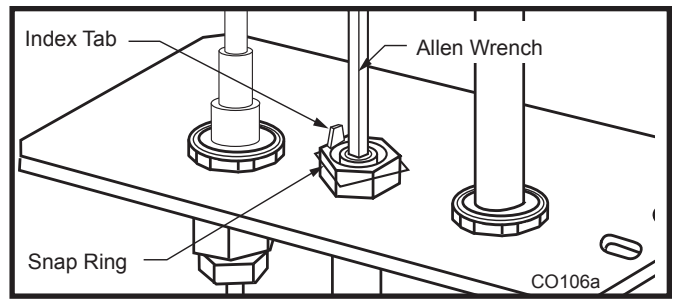

Fig. 71 Remove pilot orifice.
- Remove pilot orifice with Allen wrench. (Fig. 71)